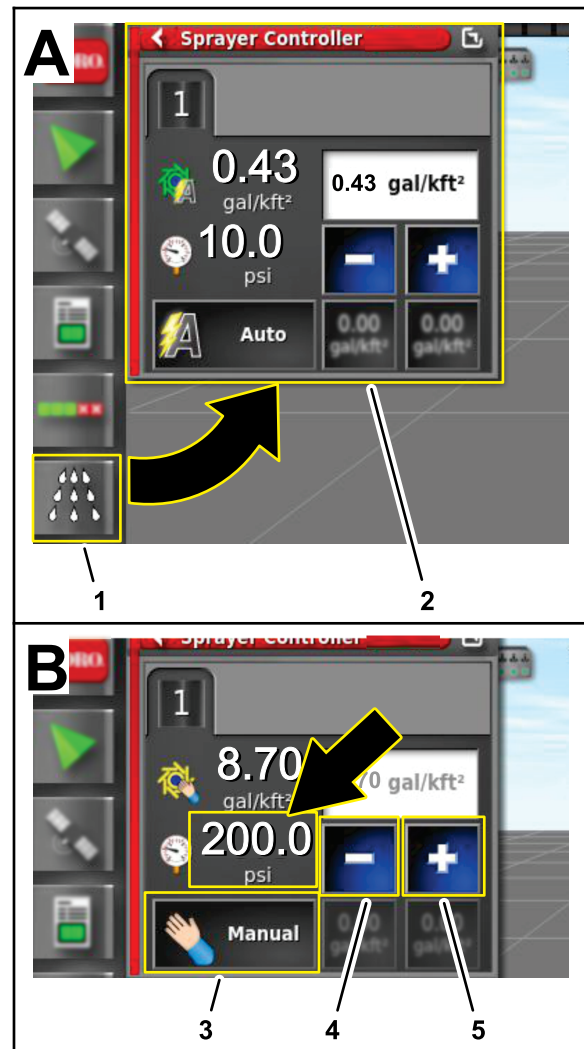

Figure 202
4. On the GeoLink control console, press the SPRAY RATE CONTROLLER icon (Figure 202).
5. In the spray rate controller dialog box, press the RATE CONTROL MODE icon until manual mode displays (Figure 202).
6. Use the decrement icon (-) or increment icon (+) to adjust the spray system pressure (Figure 202) to 13.75 bar (200 psi).